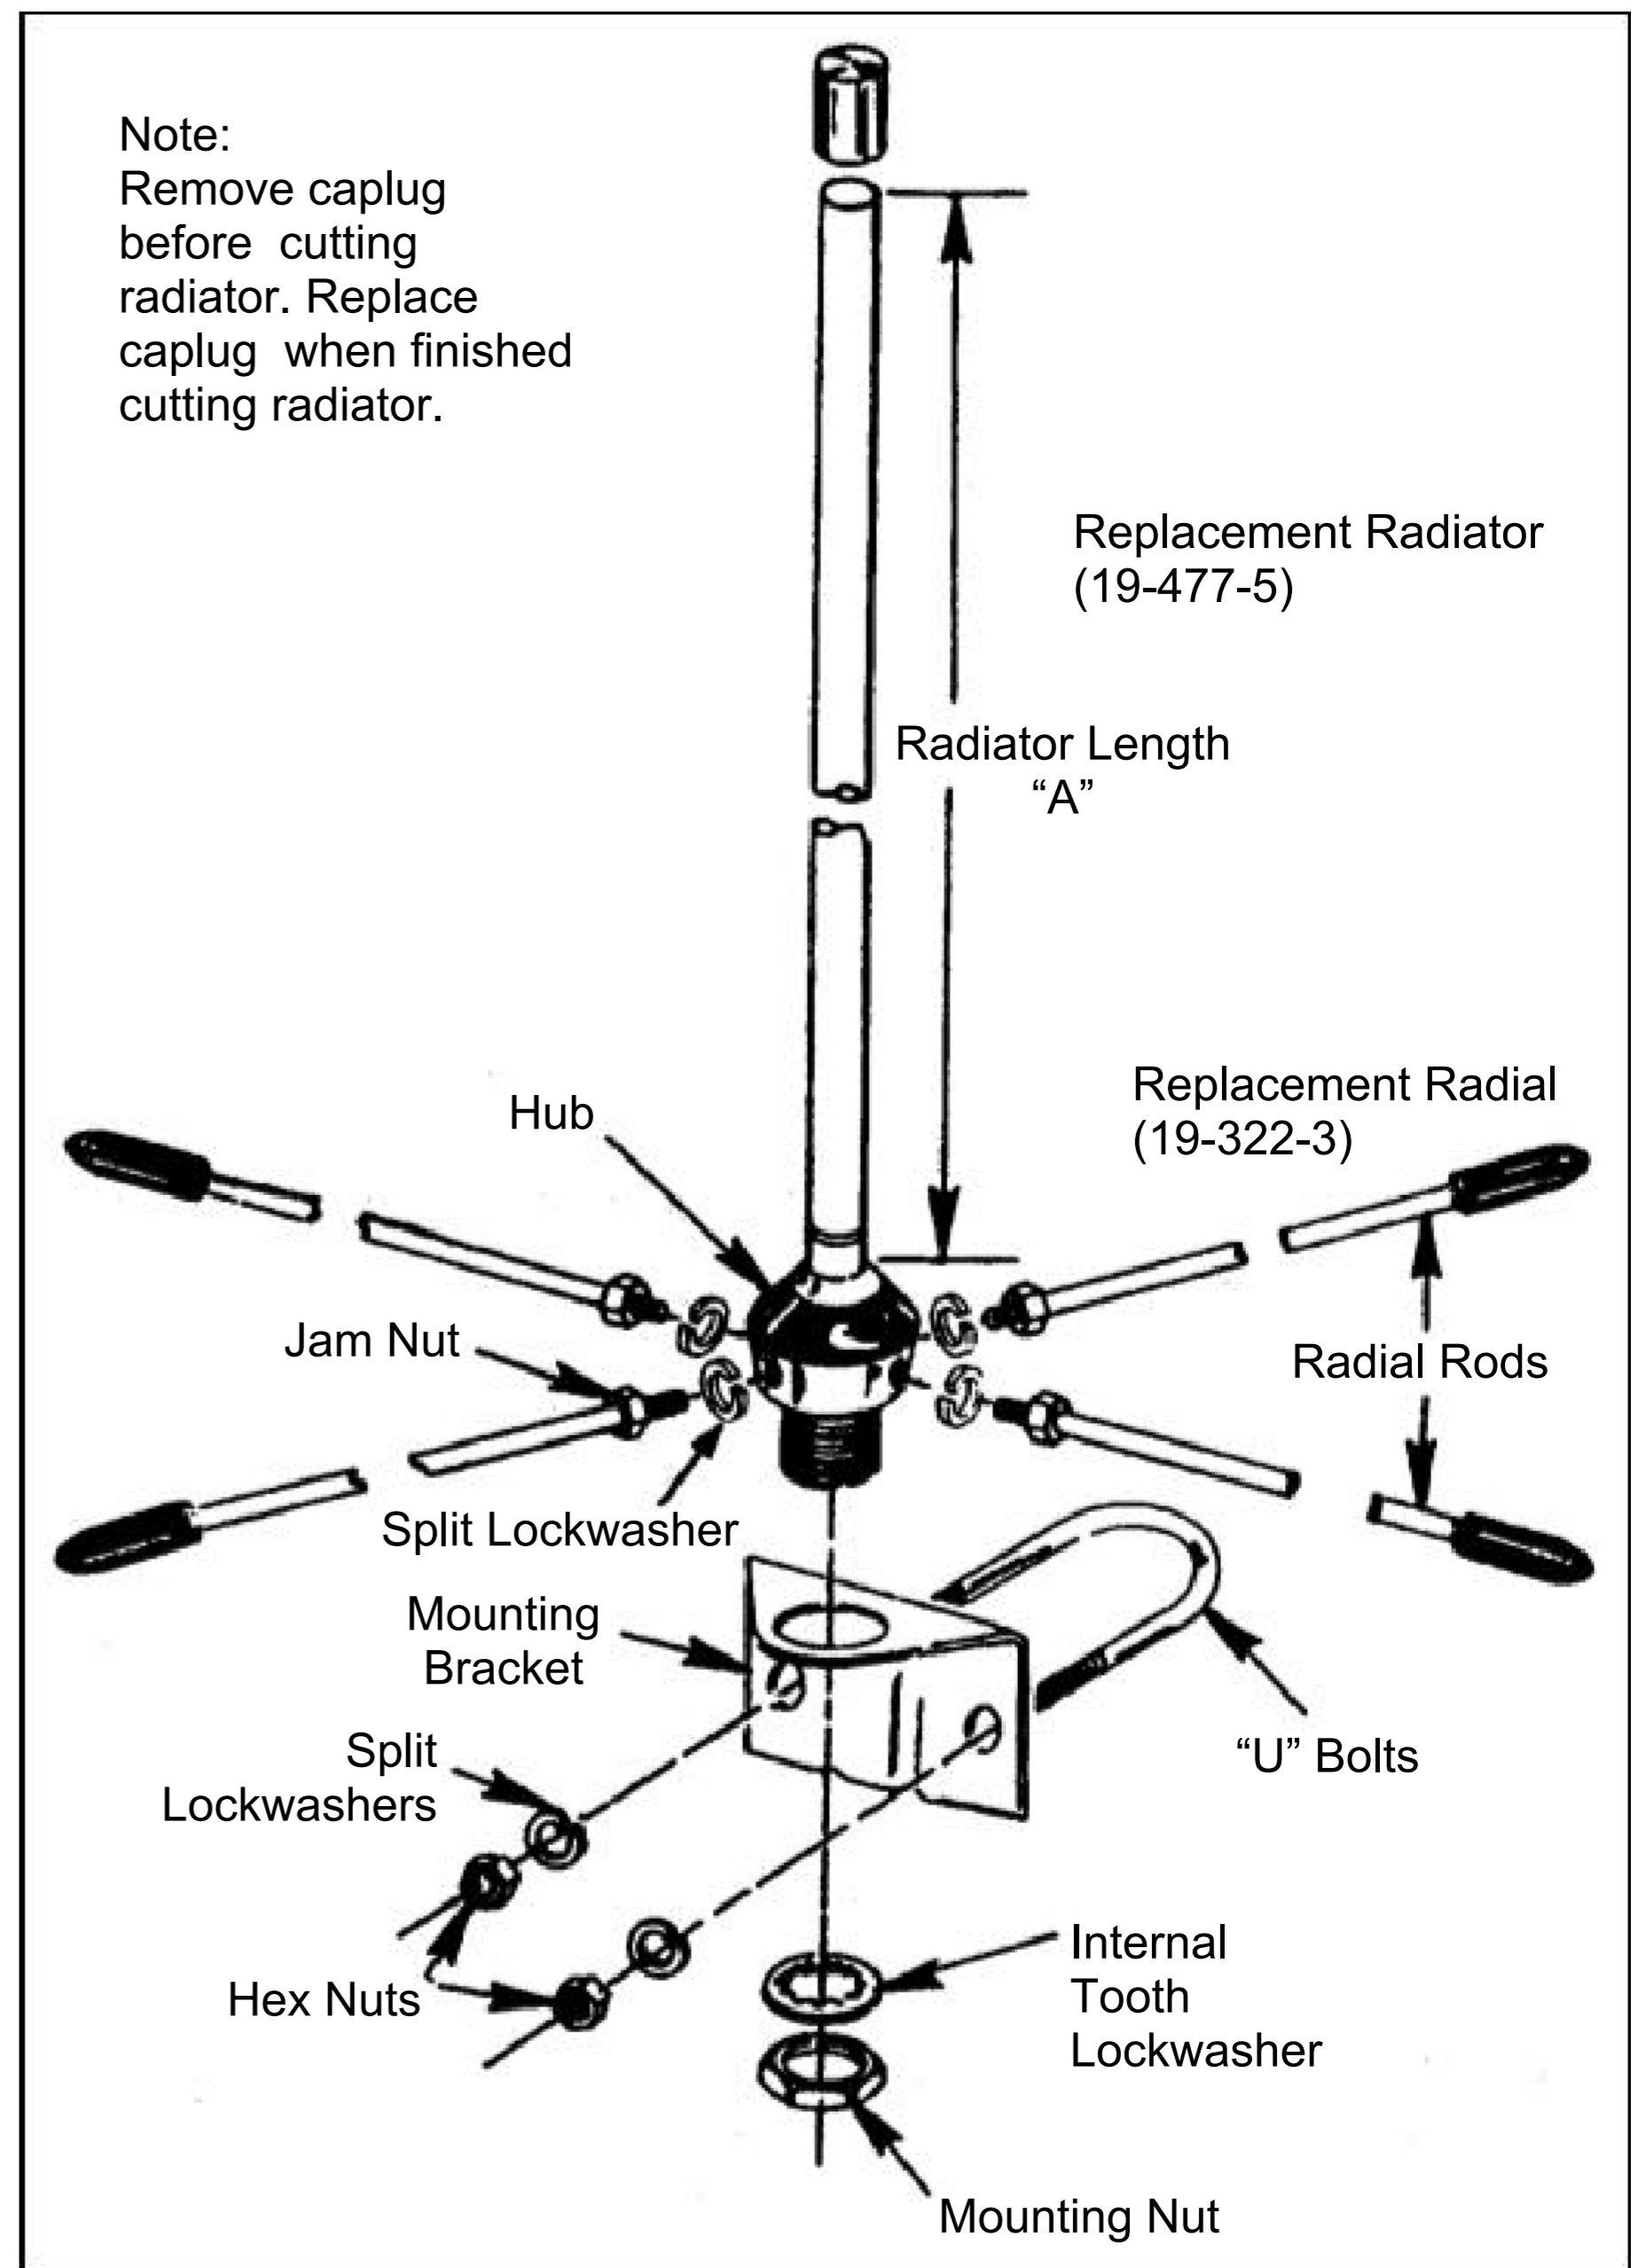

Figure 1. Assembling the Antenna.
2. Loosen mounting nut and assemble radials to hub as shown in Figure 1. Tighten jam nuts and lockwashers against hub to secure the radials. Retighten mounting nut.